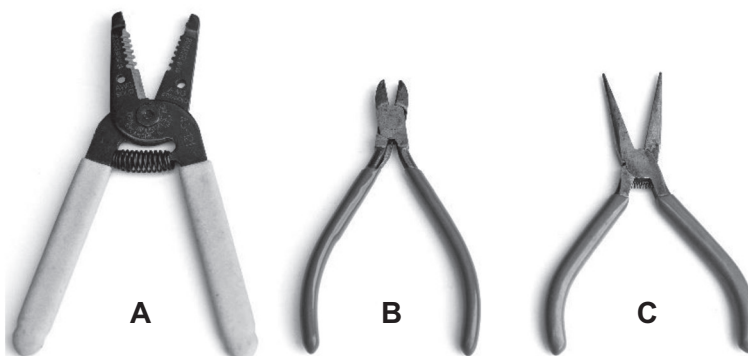

Fig. 11.2
- (b) Fig. 11.2 shows three tools used when constructing circuits.
- (i) State the purpose of each tool shown in Fig. 11.2.